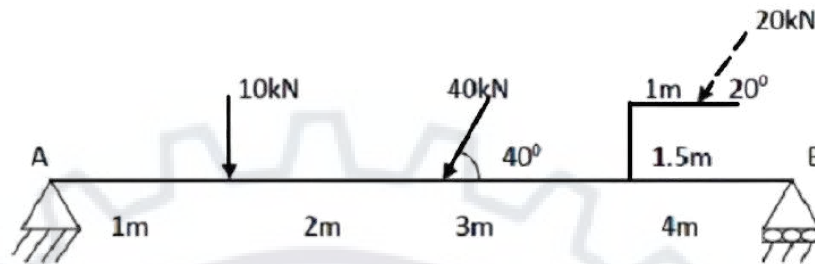

Figure 3
13. (a) Find the support reactions for the beam loaded as shown in Figure 3. (9 Marks)